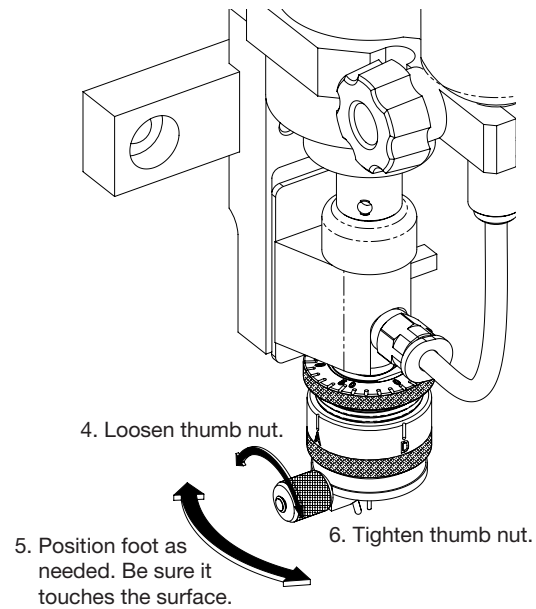

Figure 6. Setup 3
**Figure 6. Setup 3.** Orient the foot, Figure 6, following steps 4, 5, 6 so it does not interfere with electrical components or other parts of the workpiece or fixture.